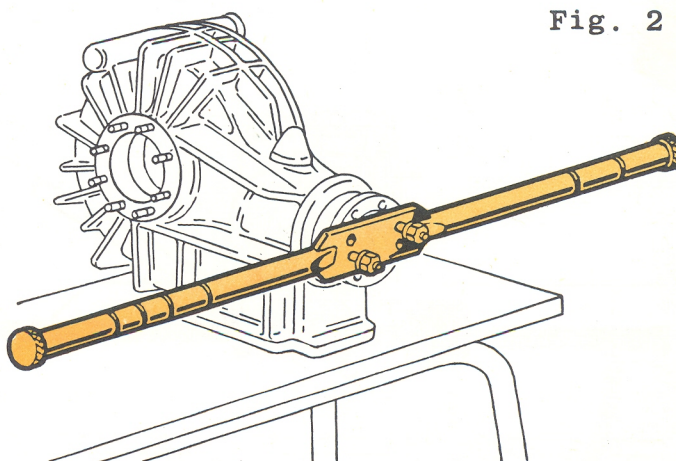
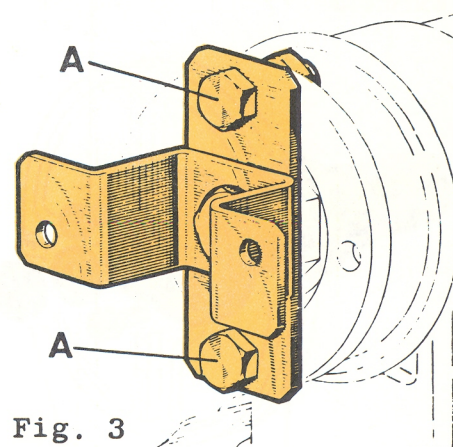
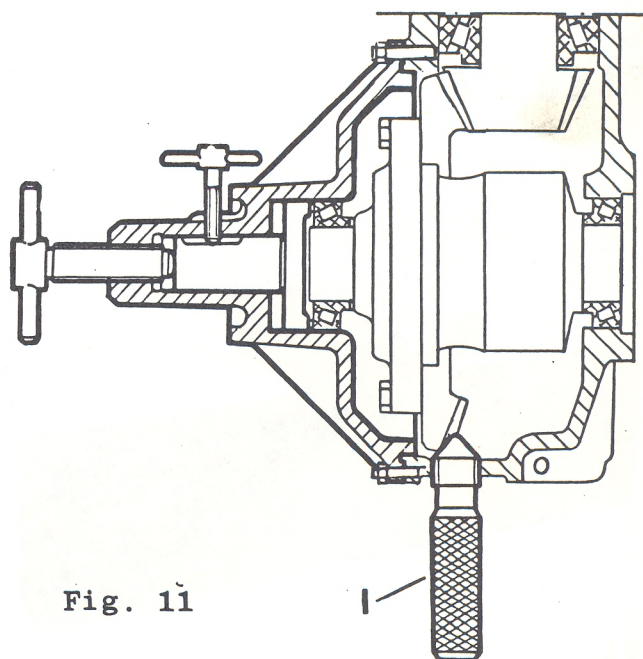

Fig. 2
Fig. 3
Fig. 11
- 2 Fit the tool to the pinion shaft yoke; to do so, insert the two studs "A" as applicable into the relevant holes in the yoke; then, secure the tool in place (see figure 2). On Montreal model, use the tool A.2.0210 (shown at fig. 3) which acts as an adaptor for the tool C.5.0100.
- 12 Refer to the Tool Bulletin 102, and specifically to the fig. 2. Lock the crown wheel by means of the setscrew "H". See figure 11. Then, fit the tool C.5.0100 to the pinion shaft yoke as directed by paragr. 2.